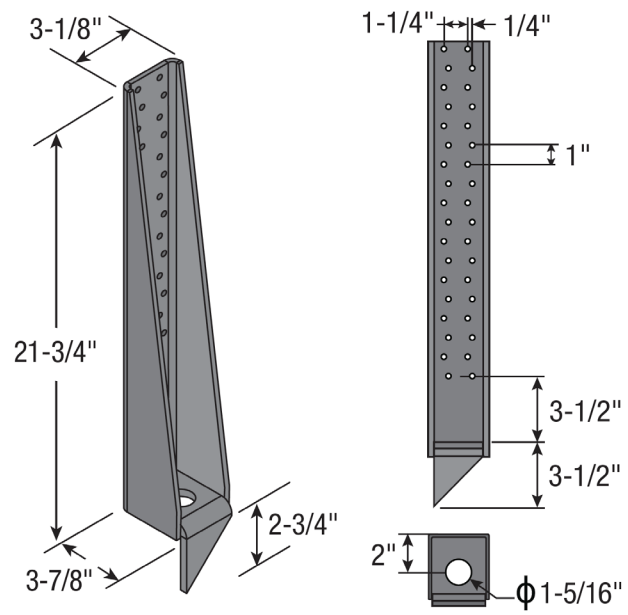

FIGURE 4. HD22 HOLD DOWNS
5. The *HD*22 is 7 gauge (minimum thickness with coating is 0.1790") and is manufactured from *ASTM* A1011, Structural Steel, Grade 33 ($F_u = 52$ ksi, $F_y = 33$ ksi) uncoated steel, spray painted after welding the washer ($3/8$ " thick) to the bottom of the bent strap (offset = $3-1/2$ "). See Figure 4 *HD*22 Hold Downs and Table 2 for fastening schedules and design values.